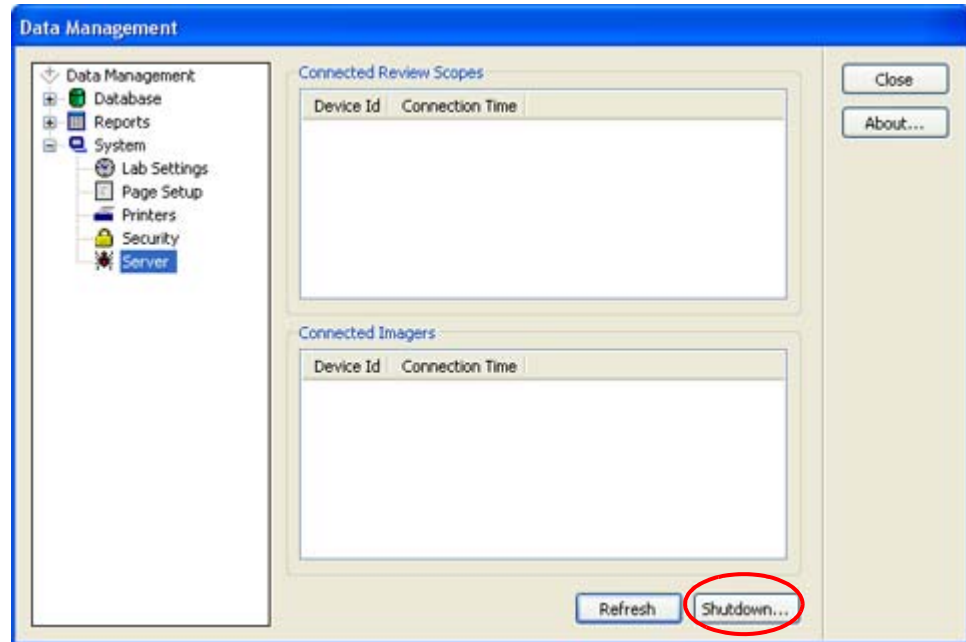

Figure 3-33 Server Shut Down Button
2. The Data Management, Server window displays, Figure 3-33. Click the **Shutdown...** button at the bottom.